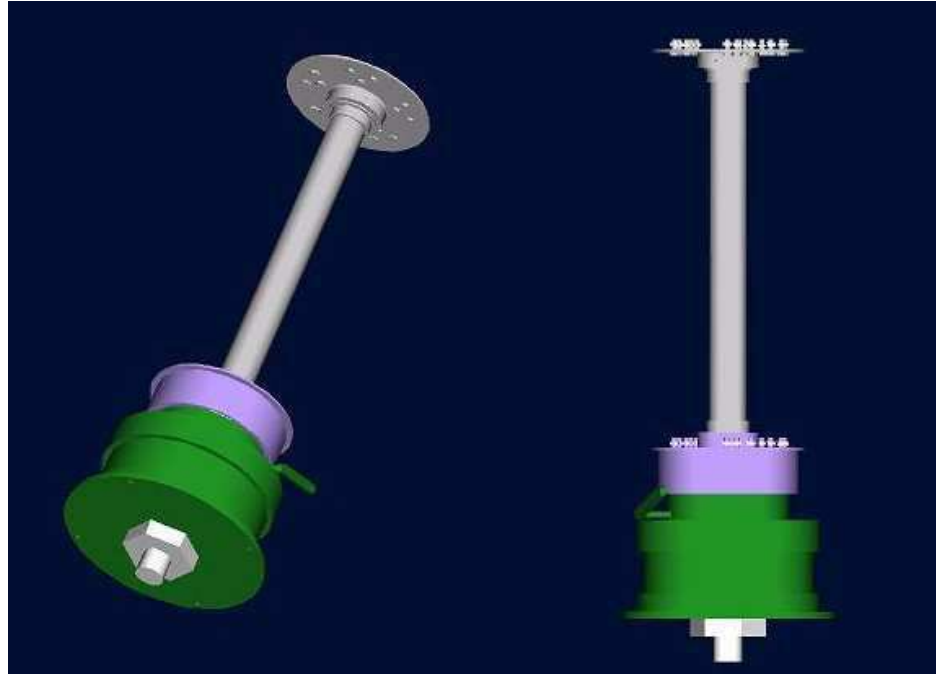

Fig 4
Step 3: Install the main shaft onto the generator, fasten with nuts, gaskets and spring gaskets as shown in Figure 4.